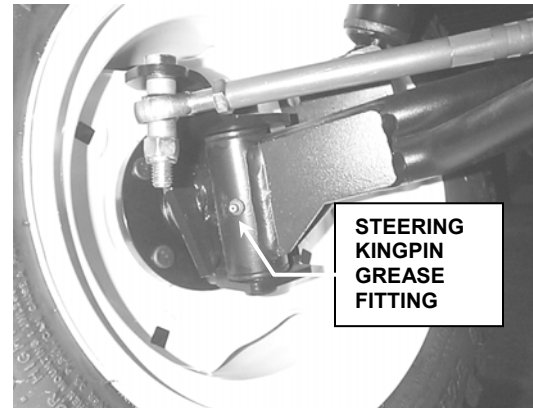

FIGURE 3.4a
5. Apply (2) shots of General Purpose grease from a grease gun
7. Locate grease fitting on left & right king pins. See Figure 3.4a.
8. Apply (4) shots of General Purpose grease from a grease gun.